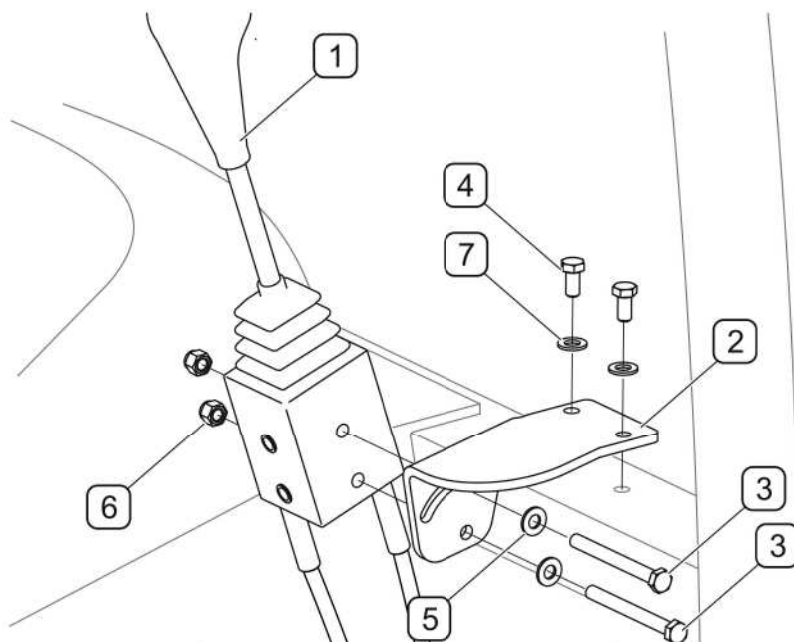

FIG. 4.14A Installation of the control lever in the Zefir 40/40K tractor cab
(1) - loader control lever, (2) - lever support, (3) - bolt M8x80, (4) - bolt M8x16, (5) - washer 8-100HV, (6) - nut M8; (7) - spring washer Z8
When installing the control lever in the Zefir40/40K tractor (FIG. 4.14A) secure bracket (2) for the control lever (1) inside the cabin by right front door corner post.